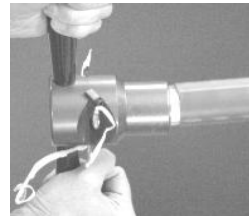

Figure 3
- 3) **Insert cable end into prep tool and turn tool clockwise** to remove material (Figure 3). When tool no longer cuts away material and spins freely, **remove tool while continuing to turn.** (This process will remove .50" of jacket back for standard black jacket. If necessary, **remove** any jacket remnants with razor knife.) **For riser rated cables,** the exposed outer conductor will be 3.94" when prep is completed. (Tools required: All-In-One Cable Prep Tool and Razor Knife)